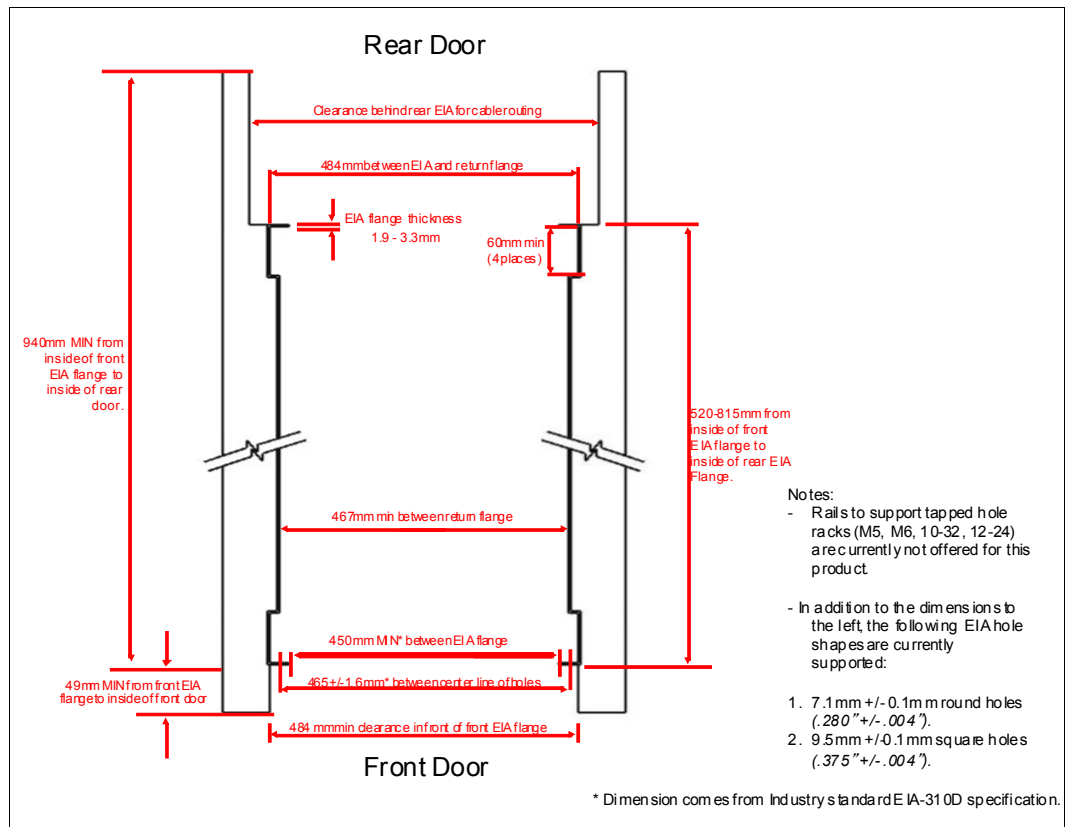

Figure 1-17 Top view of the rack specification dimensions (not specific to IBM)
- ▶ The front rack opening must be 451 mm wide ± 0.75 mm (17.75 in. ± 0.03 in.), and the rail-mounting holes must be 465 mm ± 0.8 mm (18.3 in. ± 0.03 in.) apart on-center (that is, the horizontal width between the vertical columns of holes on the two front-mounting flanges and on the two rear-mounting flanges). Figure 1-17 is a top view showing the specification dimensions.